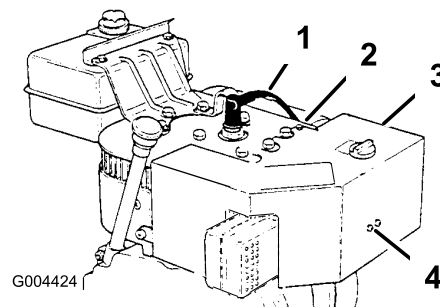

Figure 18
If you operate the engine when the air temperature is above 40°F (4°C), remove the carburetor heater box (Figure 18).
1. Disconnect the wire from the spark plug and ensure that the wire does not contact the plug (Figure 18).
4. Remove the fasteners that secure the carburetor heater box in place (Figure 18).